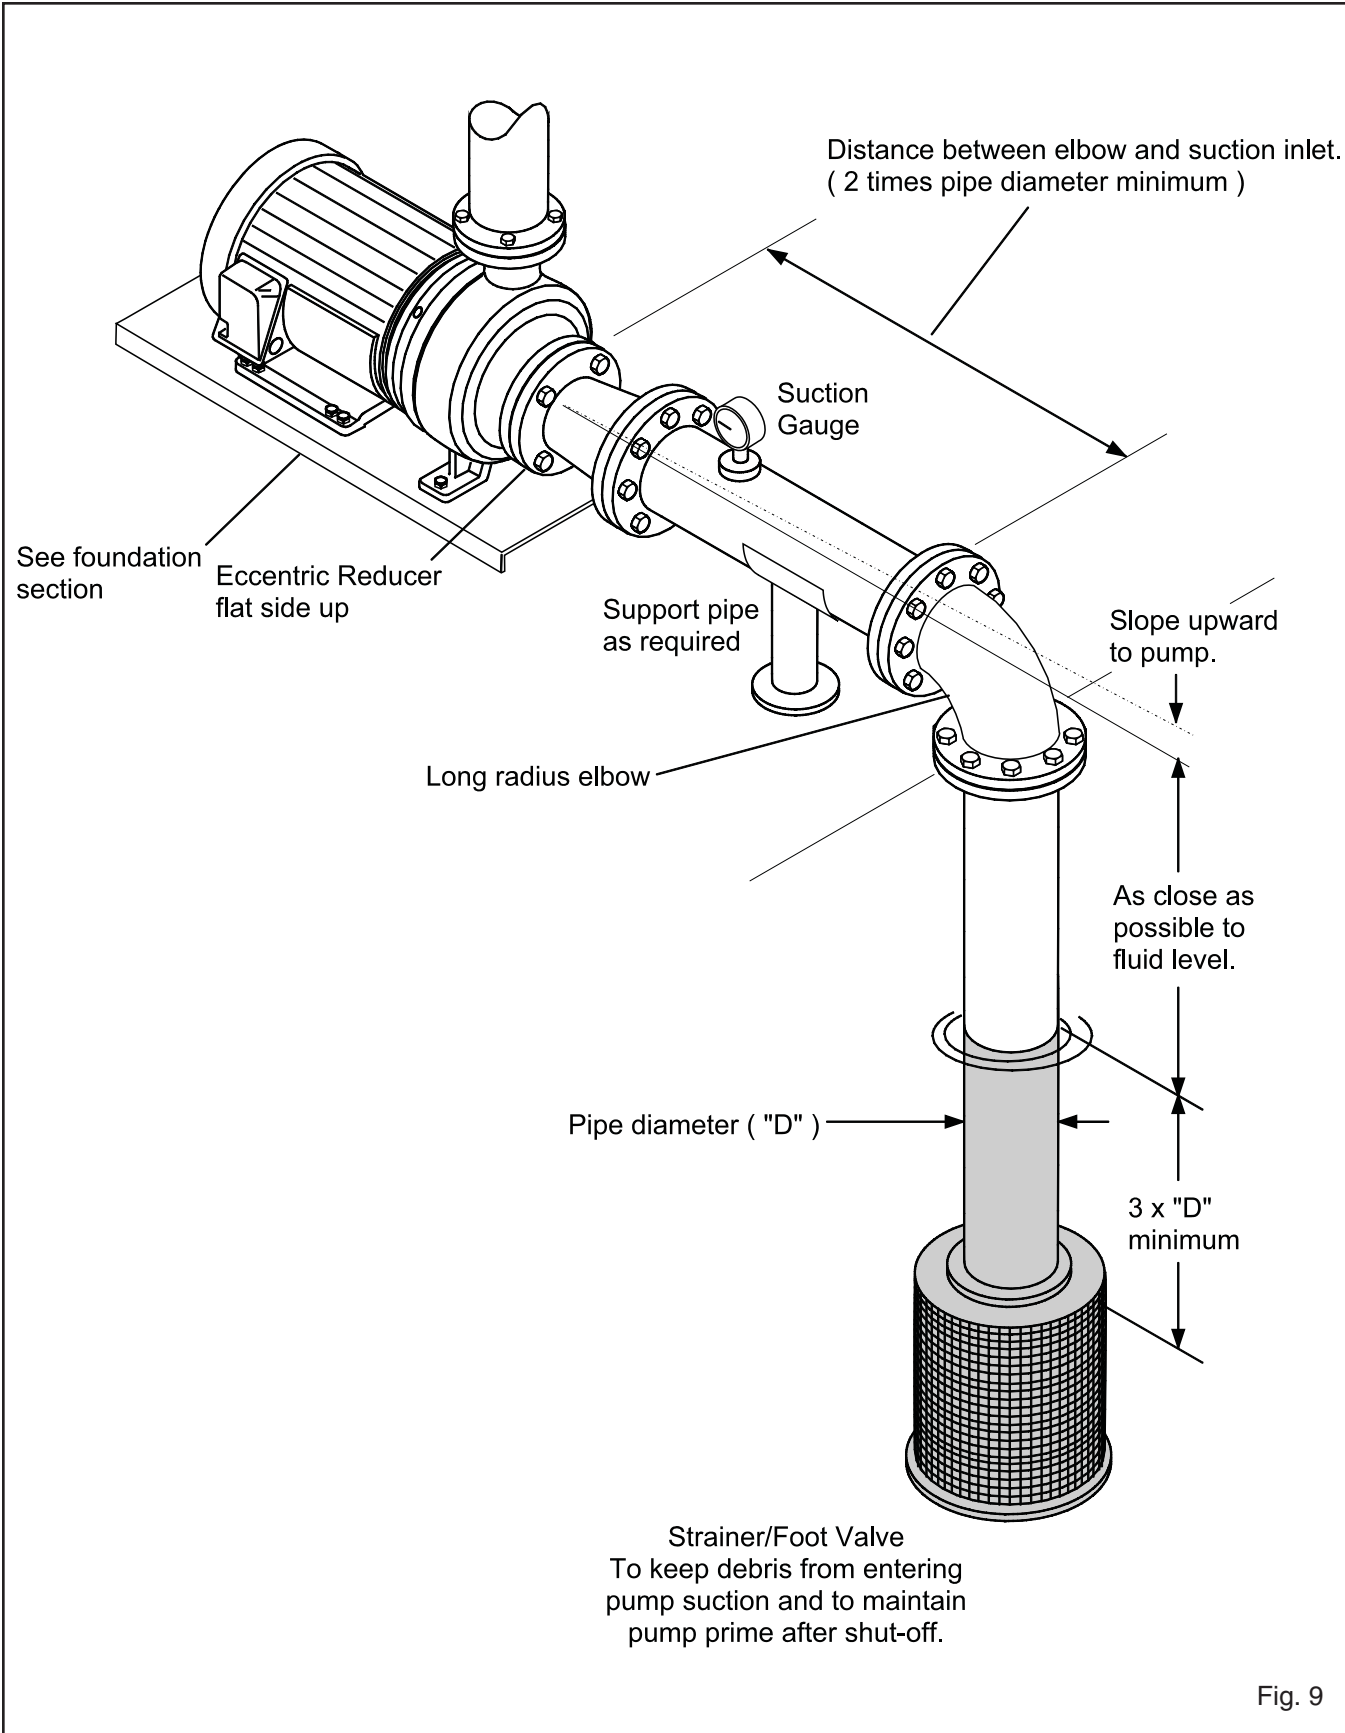

Fig. 9
1. Use of elbows close to the pump should be avoided. There should be a minimum of 2 pipe diameters of straight pipe between the elbow and the suction inlet. Any elbows used should be long radius (Fig. 9).
3. Reducers, if used, must be eccentric at pump suction flange with sloping side down (Fig. 9).
4. Suction strainers, when used, must have a net “free area” of at least three times the suction pipe area (Fig. 9).